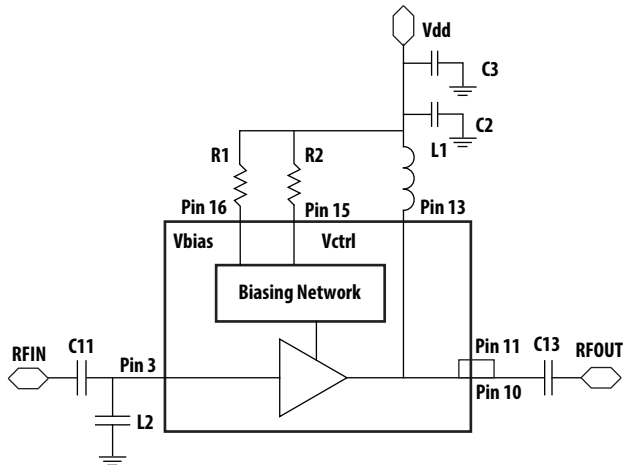

Figure 46. Application Circuit Diagram
1. Vbias and Vctrl can be externally controlled by change external biasing resistors R1 = Rbias and R2 = Rctrl (as shown in Fig. 46).
1.  $V_{bias}$  and  $V_{ctrl}$  can be externally controlled by change external biasing resistors  $R1 = R_{bias}$  and  $R2 = R_{ctrl}$  (as shown in Fig. 46).
- Vbias and Vctrl can be externally controlled by change external biasing resistors R1 = Rbias and R2 = Rctrl (as shown in Fig. 46).